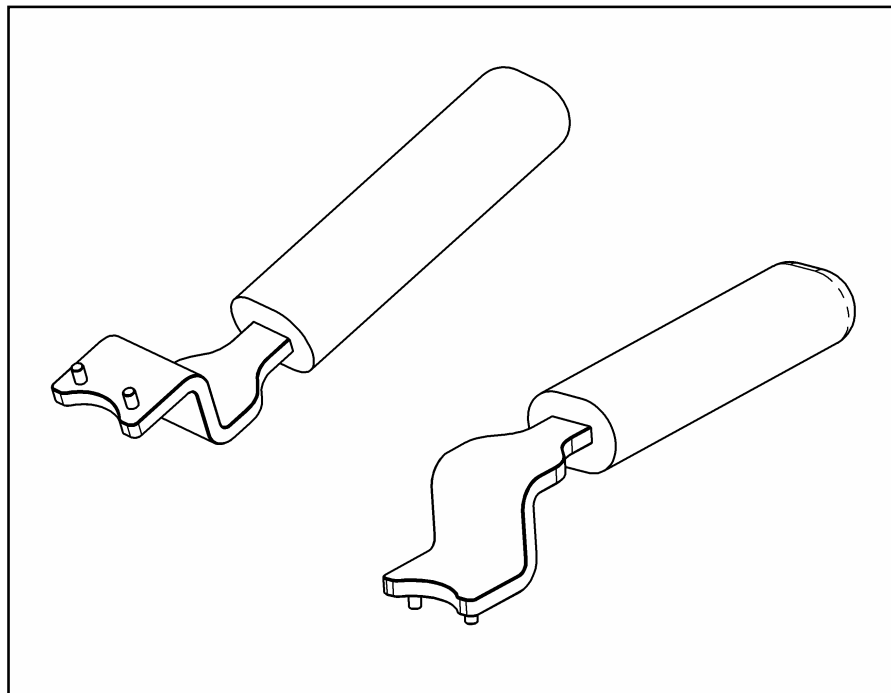
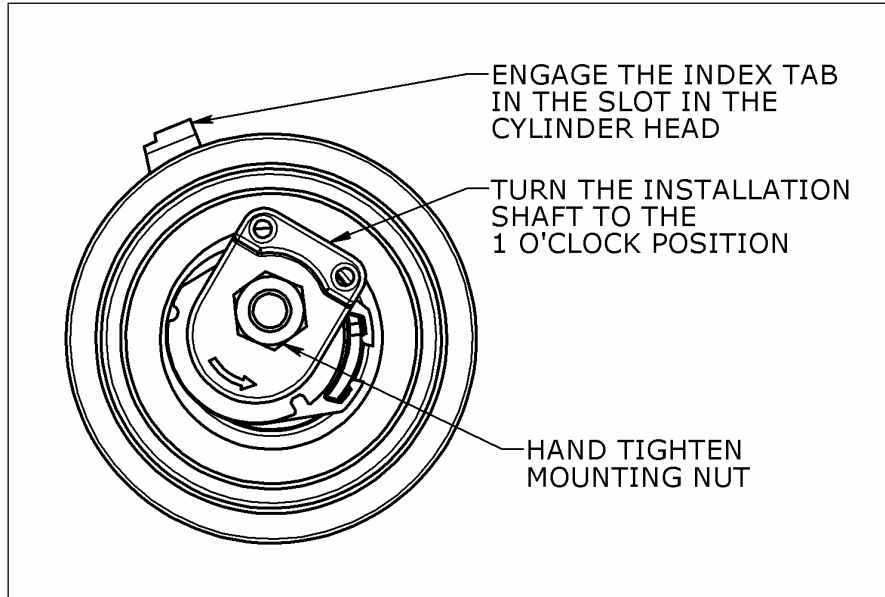

Figure 3: 2-Pin Installation Tool
Figure 4: Initial setup of the Timing Belt Tensioner
6. Rotate the installation shaft on the tensioner using the 2-Pin Installation Tool (Fig. 3) to the approximate "1 O'clock position" (Fig. 4). This will maximize the belt clearance for ease of installation. Hand tighten (lightly) the mounting nut on the stud.